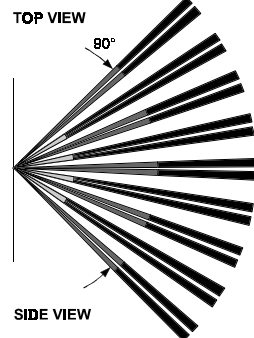

Figure 2. Coverage Pattern - Lens No. 100
**Standard Lens:** No. 100 (see Figure 2), 36 beams, 3 layers.